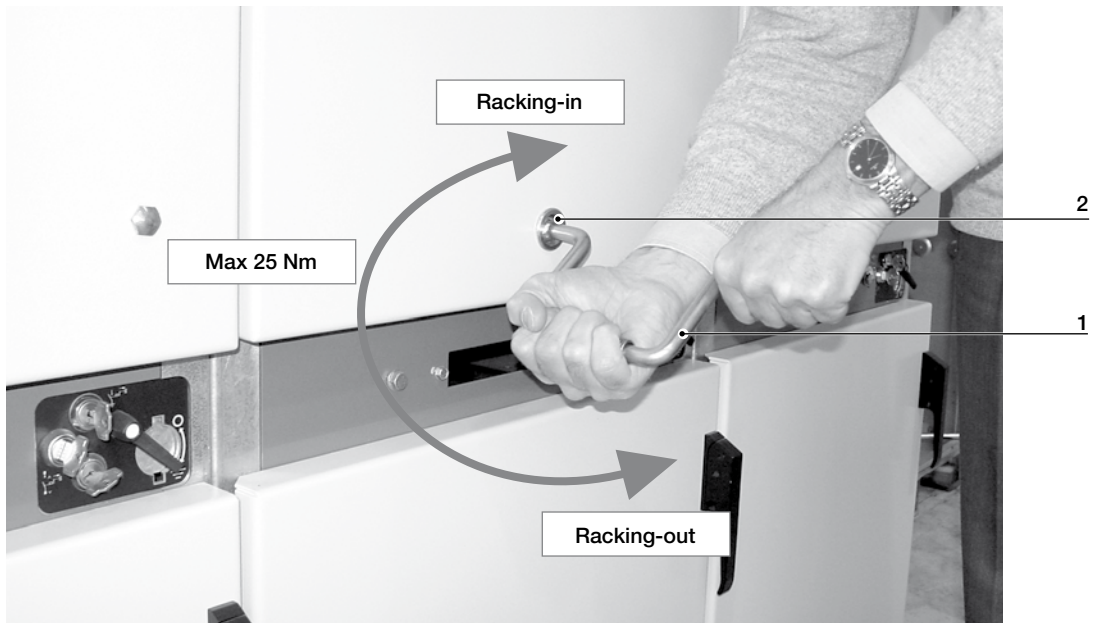

Fig. 9
For racking-in/racking-out of the switchgear, fully insert the lever (1) (fig. 9) in the appropriate seat (2) and turn it clockwise for racking-in, and anti-clockwise for racking-out, until the end of travel positions are reached.
- Insert the manual racking-in lever (1) in the special coupling (2) Fig. 9, and take the motorized truck to about half its run between the isolated for test and the connected position. The torque required for truck handling is ≤ 25 Nm. In the case of accidental reversal of the truck motor power supply polarity, this operation allows a possible error in direction to be dealt with without any damage.
- Remove the manual lever (1) from the coupling (2) Fig. 9